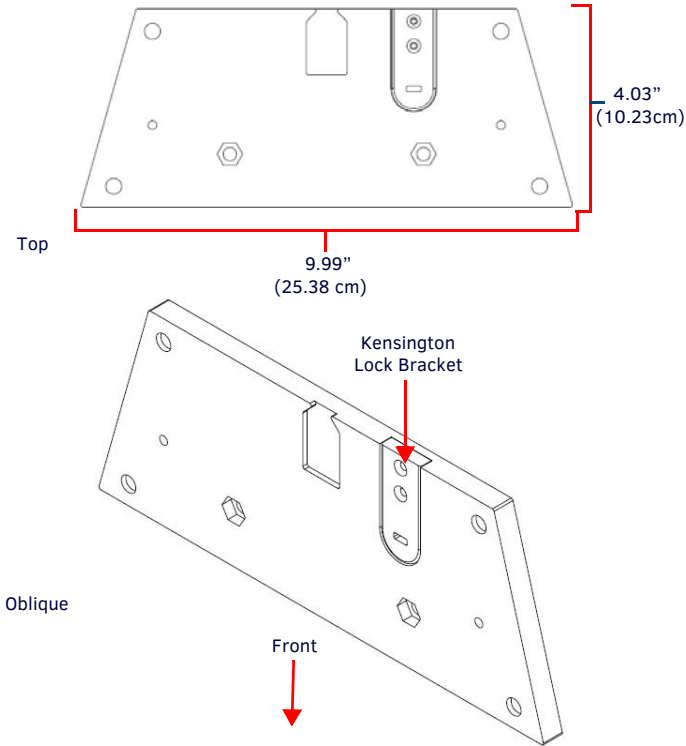
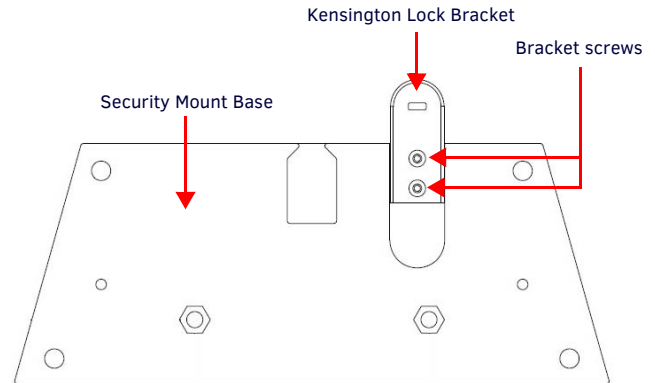

FIG. 1 MSA-STMK-10 SECURE TABLE MOUNT KIT
FIG. 6 KENSINGTON LOCK BRACKET INSTALLATION
The MSA-STMK-10 Secure Table Mount Kit (FG2265-16) is a beautifully styled plate that, when attached to the Modero S MST-1001 10.1" Tabletop Touch Panel (FG2265-05) and secured with the under-table tamper-resistant bolts, will make it virtually theft-proof (FIG. 1). If drilling into the table is not feasible, the secure mounting plate can be attached to the touch panel (but not the table) and then secured with a Kensington® Lock. Both methods may be used simultaneously for extra security
- On the security mount base (FIG. 1), loosen the two screws holding the Kensington Lock bracket to the base (FIG. 6) and remove the bracket.
- Reverse the bracket in its slot so the rounded end faces outward (FIG. 6), and resecure it to the security mount base with the two bracket screws.